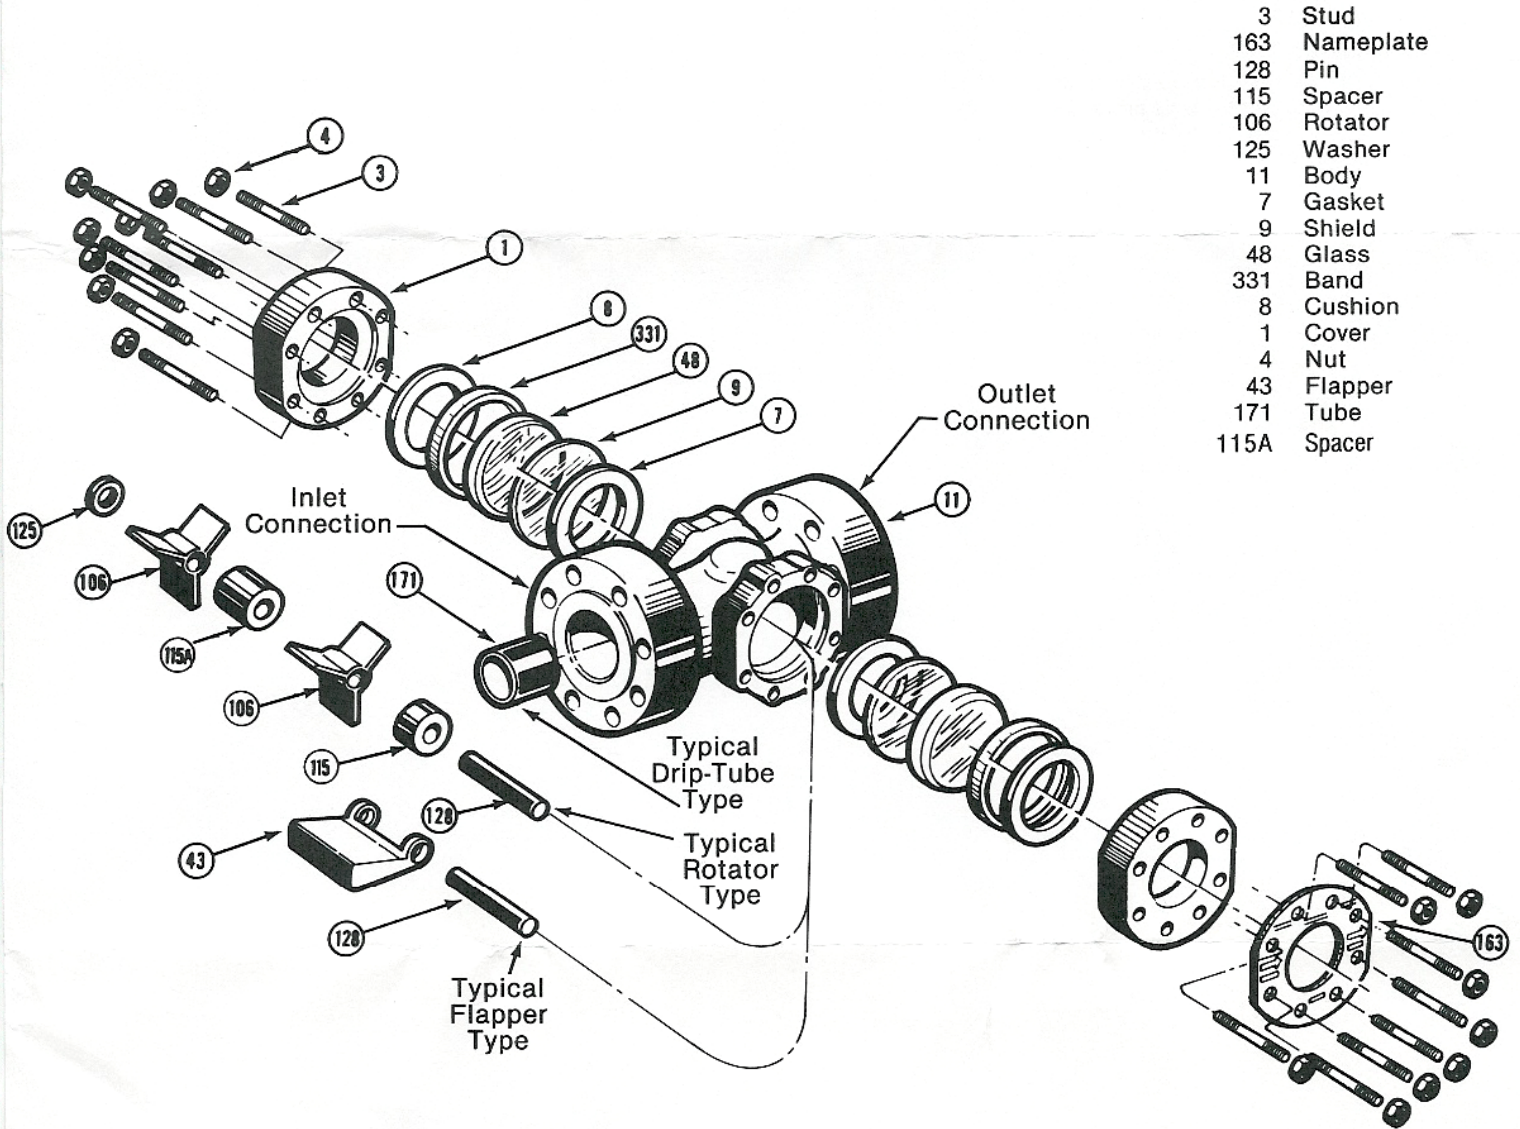

Figure 5
A. Refer to exploded view, Figure 5.
- B. Prepare for installation of new glass (48) by first cleaning the gasket seating surfaces on body (11) and the cushion seating surfaces on the glass covers (1). This should be done using a soft metal scraper (preferably brass) to remove all burrs, rust, and bits of old gasket or cushion which may be present. Exercise extreme care to avoid gouging or scarring gasket or cushion seating surfaces.
- D. Place the sight flow indicator in a horizontal position and assemble the components as shown in exploded view Figure 5. Install band (331) around glass and place glass centered within the body and cover.
- E. Threads on bolts (137) and nuts (4) must be clean of paint, rust, and scale. Apply a light coat of oil to the threads and insert bolts through nameplate and two (2) covers, and install nuts finger tight.